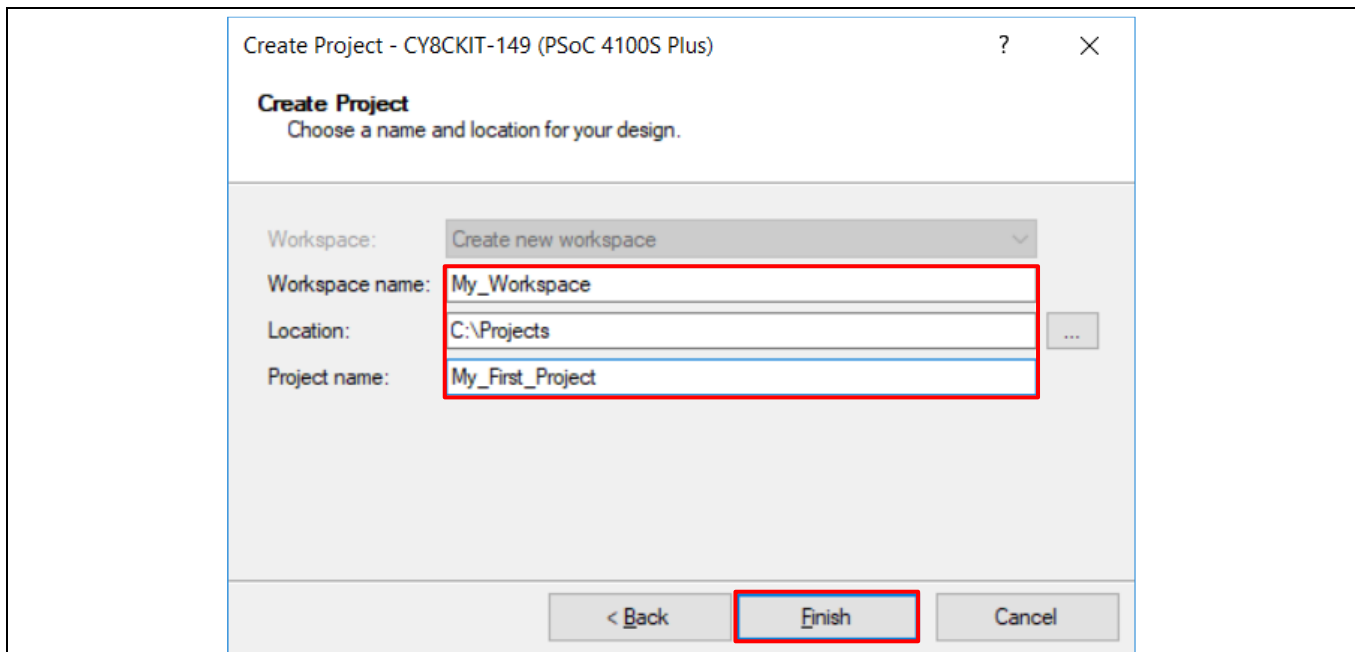

Figure 36 Selecting project name and location
4. Provide a project name (for example, “My_First_Project”) and Workspace Name as shown in **Figure 36**. Choose an appropriate location for your new project, and click **Finish**.